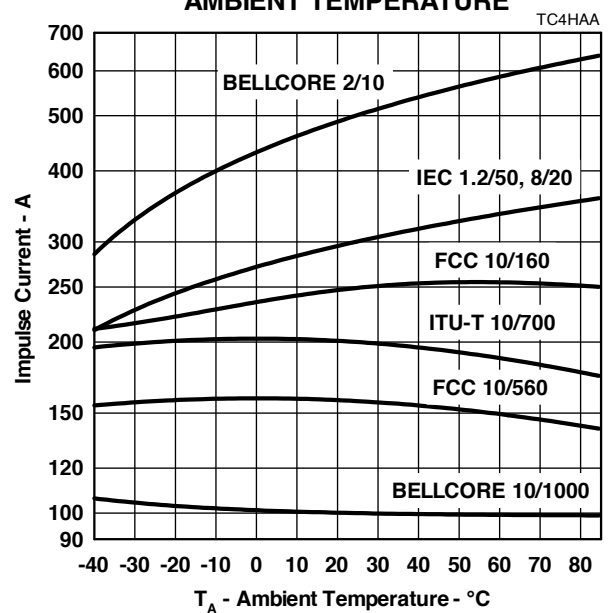

Figure 8.
4. See Figure 8 for current ratings at other temperatures.